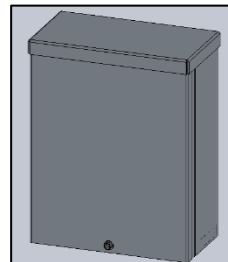

FIG. 5 - REMOTE DRIVER BOX WITH DRIVER INSTALLED
2. REMOTE DRIVER BOX WITH DRIVER INSTALLED (as shown in FIG. 5)